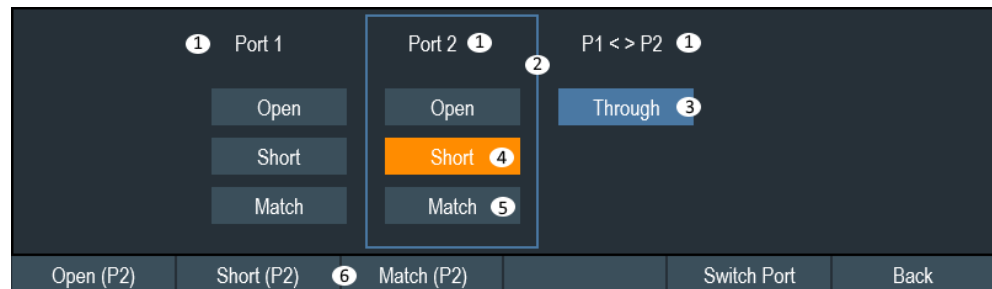

Figure 8-3: Calibration dialog
10. You can randomly select any of the calibration standard ("Open", "Short", "Match", "Through") at different calibration test ports to proceed the calibration. Alternatively, press "Switch Port" to switch to the desired test port to proceed the calibration standard. Completed calibration standards are highlighted in blue, whereas port in calibration process is highlighted in orange. See Figure 8-3.